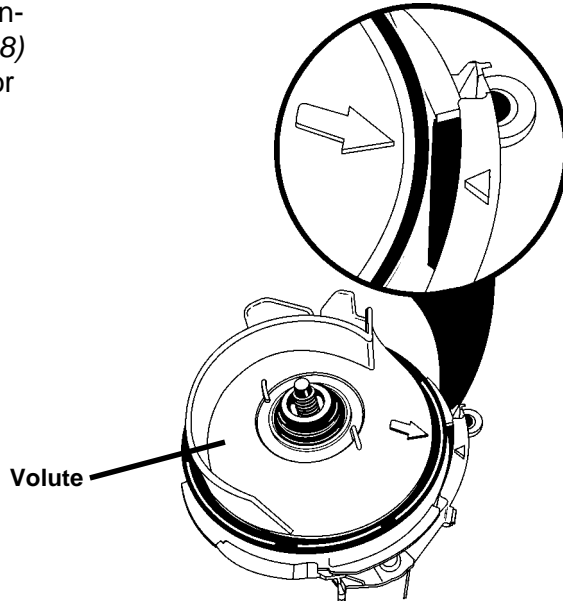

Fig. 3-29
3. Pull the motor straight back from the sump assembly. Some effort may be necessary to dislodge the motor. The volute will remain attached to the motor. (See Figure 3-29)
1. Align the arrow on the volute and the locator triangle on the wash motor frame as in Figure 3-29.